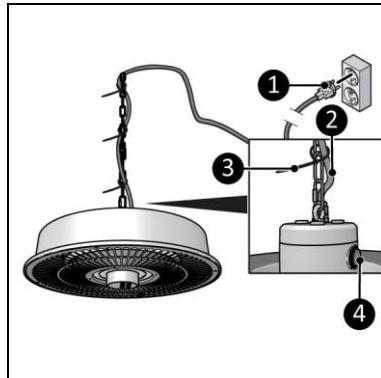

Figure 9
2. Make sure the ON/OFF switch is in the OFF position (Figure 9, pos. 4).
3. Place the power cable (Figure 9, pos. 2) along the hanging chain using tie wraps (Figure 9, pos. 3).
4. Place the power plug (Figure 9, pos. 1) into an earthed wall socket that is easily accessible. Use an earthed wall socket with a minimum power of 1500 Watt.
- Set the ON/OFF switch to the ON position (Figure 9, pos. 4).
1. Make sure the ON/OFF switch is in the OFF position (Figure 9, pos. 4).
2. Disconnect the power plug from the power outlet (Figure 9, pos. 1).